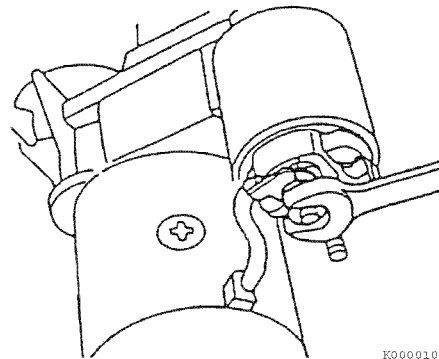

Figure 11-32
- Reinstall the two M4 through bolts (Figure 11-32). Securely tighten the through bolts. Reconnect the wire to the magnetic switch assembly. Tighten the M8 nut. Reinstall the cover over the connection.